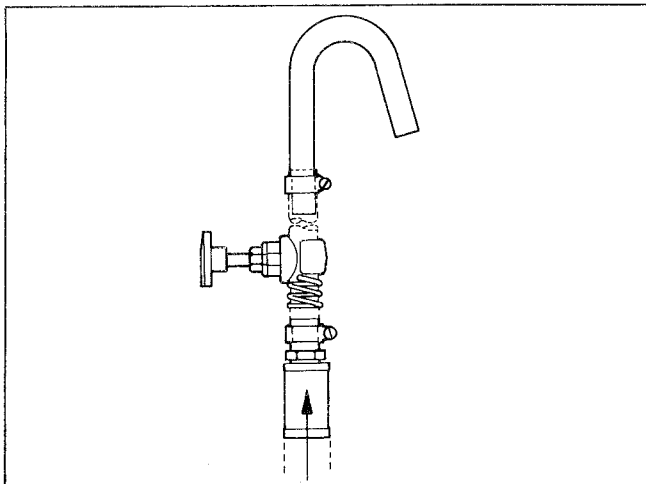

Figure 5. Type SL System
- a. Type SL (Figure 5):** Consists of 3/4" coupling, 3/4" slip-on hose fitting, 2 (two) stainless hose clamps, 8" steel wire spring to prevent hose kinking, hook over nozzle.